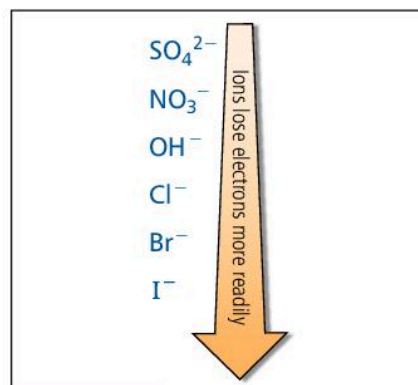

Figure 9.3.3 Discharge series for anions
- The position of the ion in the electrochemical series. Ions lower in the electrochemical series are discharged in preference to the ones above them. So, if Cu^{2+} and H^+ ions are present, Cu^{2+} ions are discharged at the cathode. We can also arrange anions in a discharge series (see Figure 9.3.3). So in concentrated aqueous sodium chloride, Cl^- ions are discharged in preference to OH^- ions.